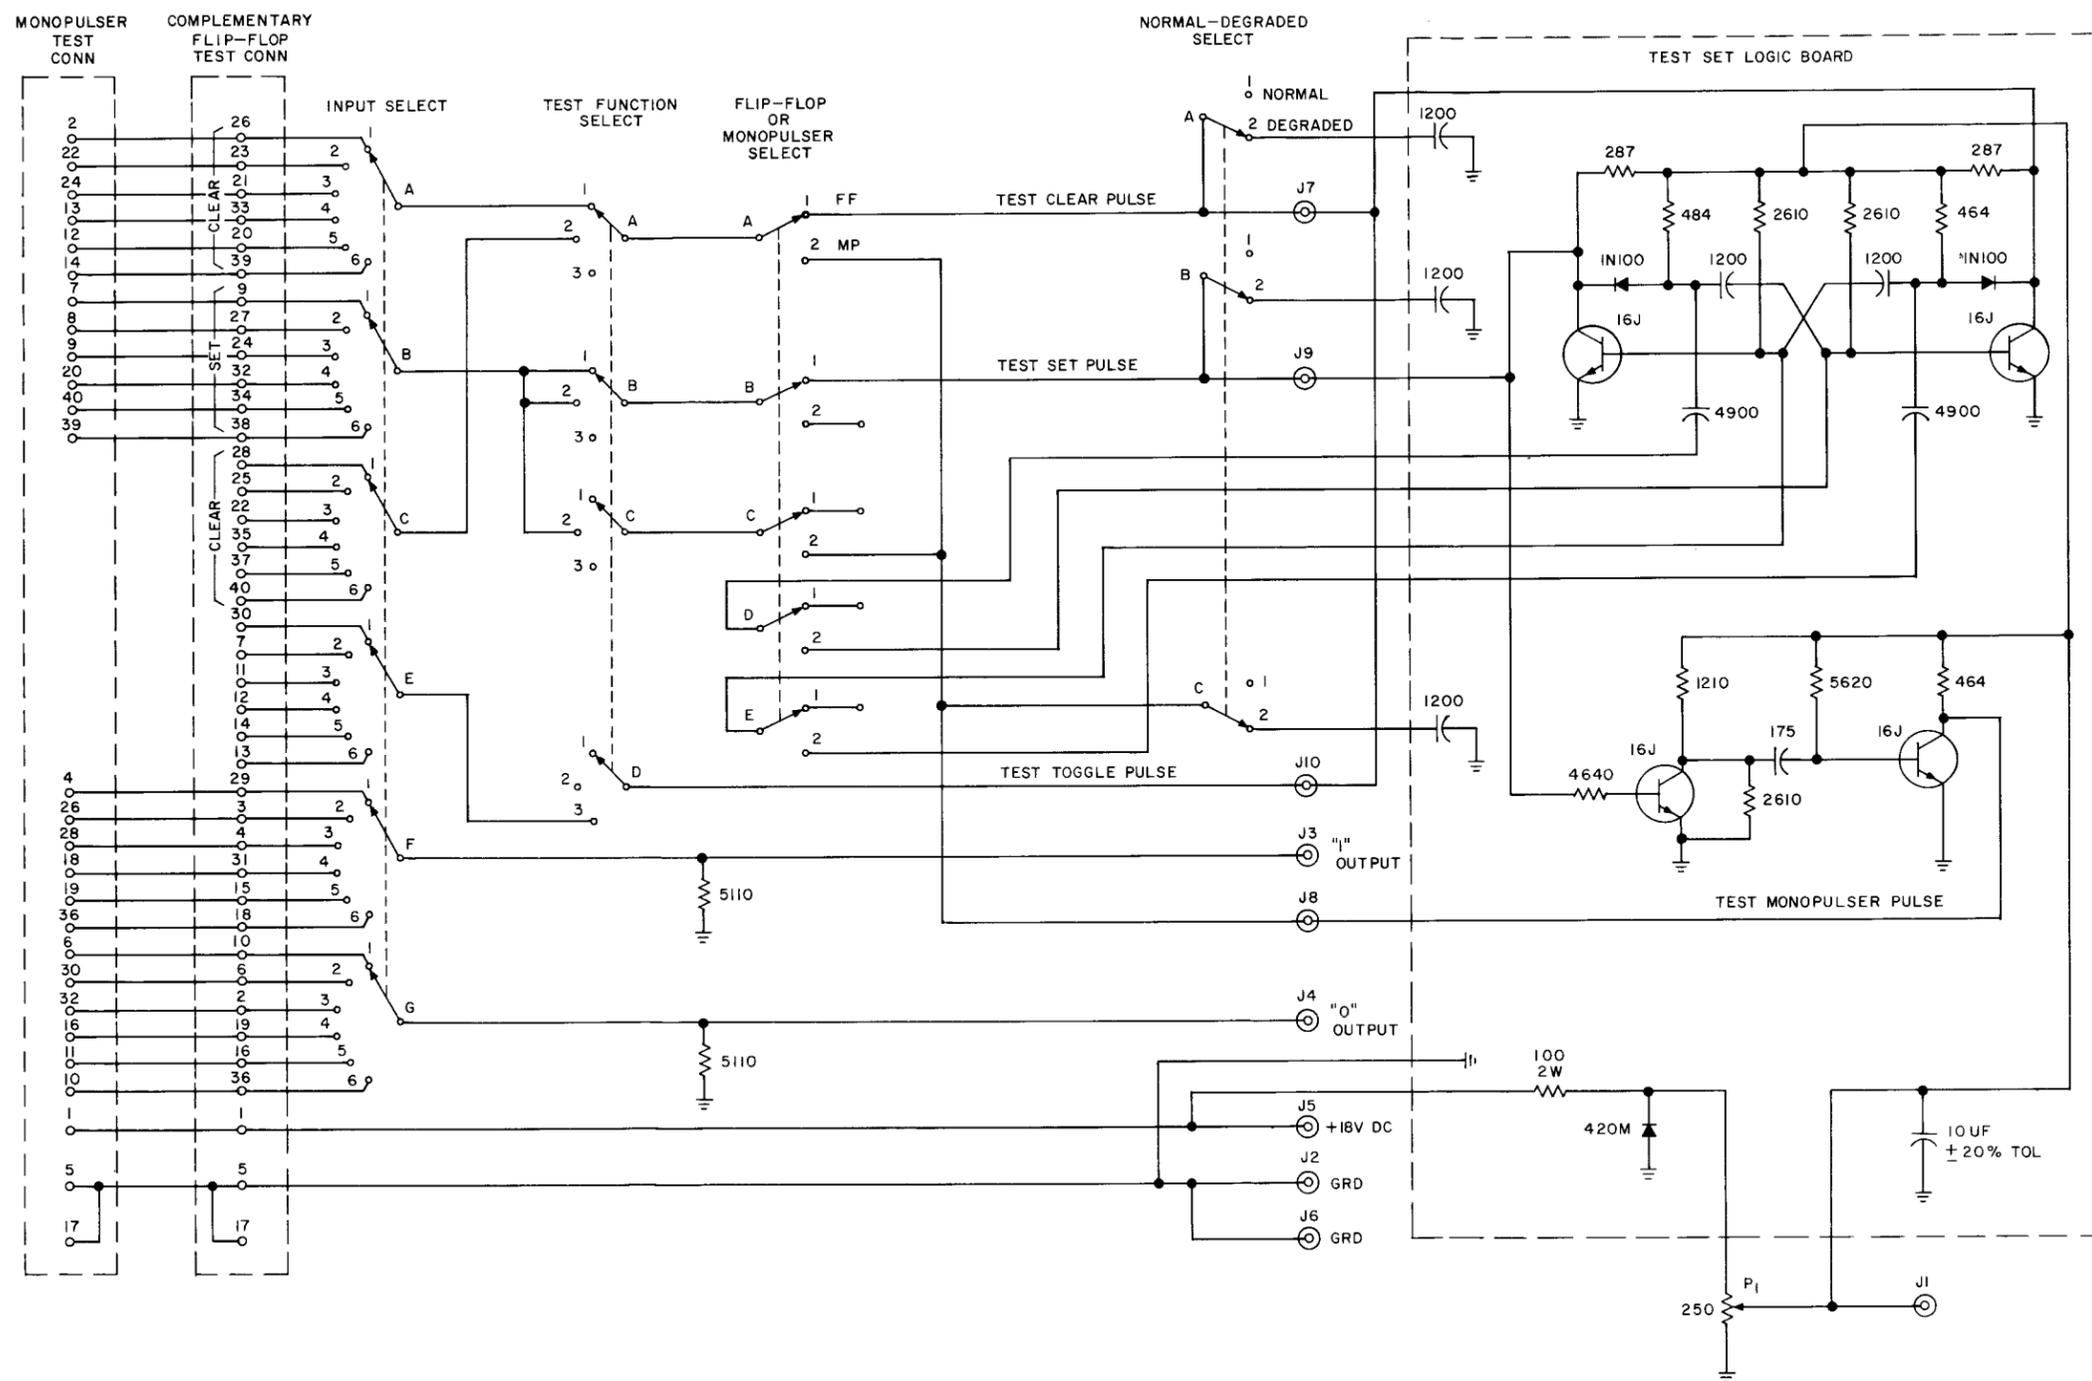

Fig. 6A — Complementary Flip-Flop Test Set
- 1 — Complementary flip-flop test set such as shown in Fig. 6A.